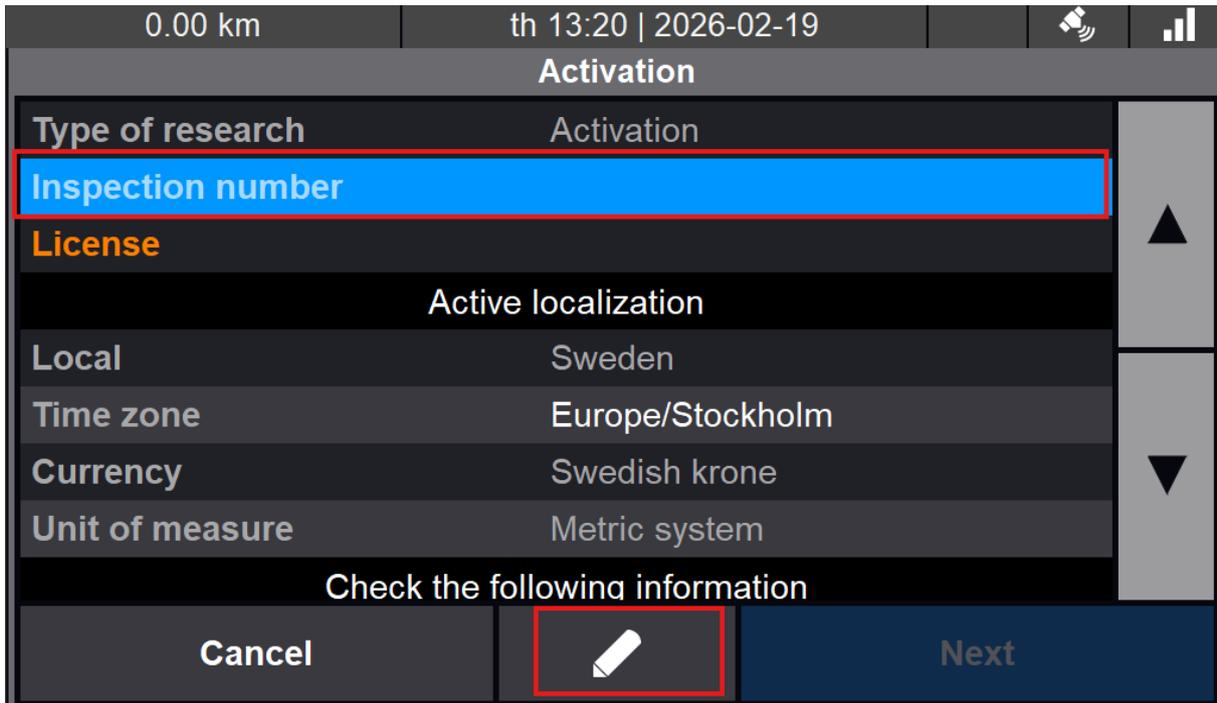

Figure 2-1: Inspection number during activation.
3. Press the **pencil icon** at the bottom of the screen (see Figure 2-1).